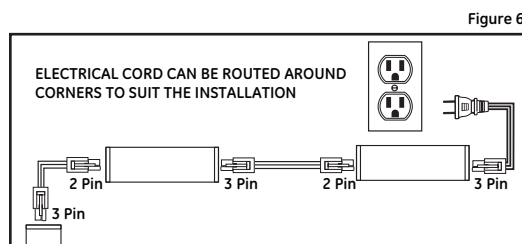
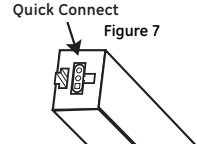

Figure 6
Figure 7
1. Attach additional fixture with the 18" (45.72cm) quick connect cord provided in the installation kit. A maximum of 40 fixtures can be connected together. See **Figure 6** and **Figure 7**. (See product label located on the fixture for electrical rating.)
2. Attach the quick connect power cord with the plug and three pin quick connector to the fixture closest to the outlet. See **Figure 6** and **Figure 7**.